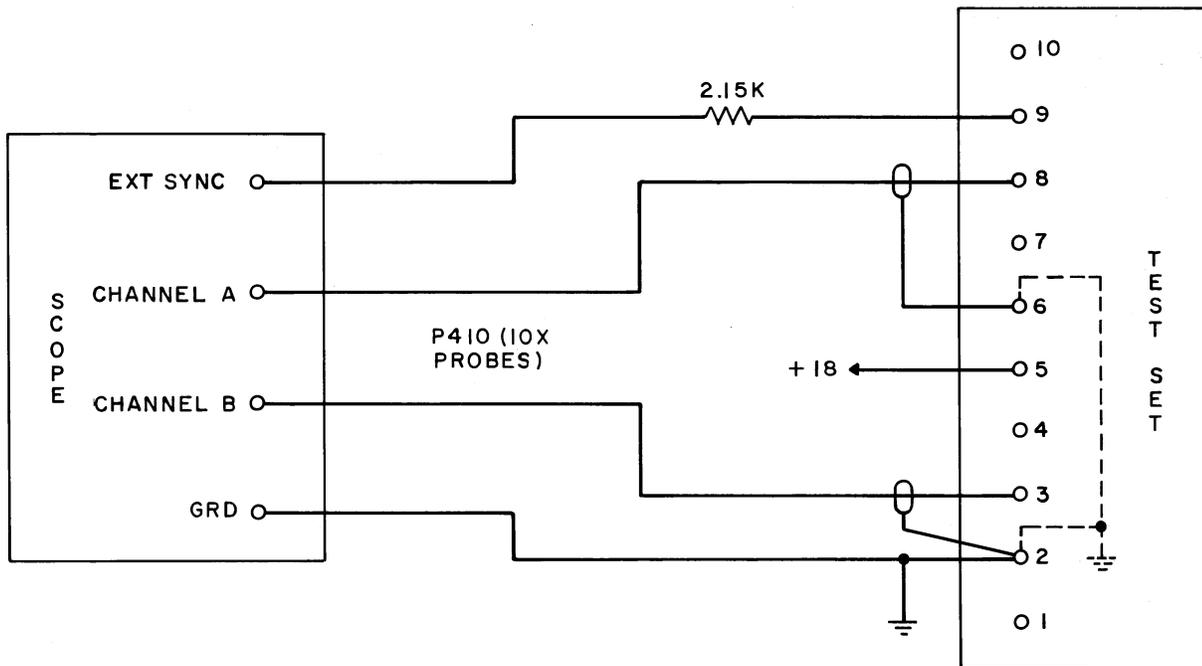

Fig. 29 - (Monopulser Card Test)
- (1) Set up the test circuit as shown in Fig. 29. The scope EXT SYNC TRIGGER selector should be set to the (+) positive position.
- (2) Make the following settings on the test set: